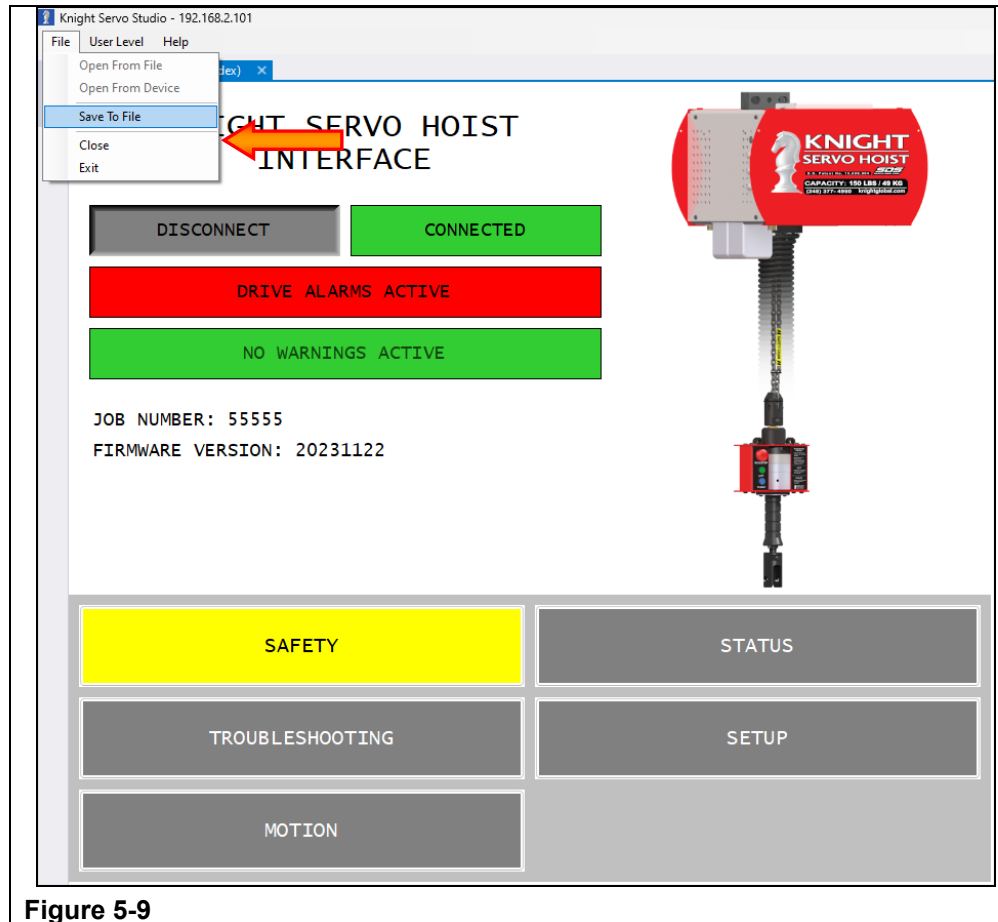

Figure 5-9
Step 1. Move the mouse to the left side of the screen and select the 'File' dropdown. Mouse down to 'Save to File' and select this function (See Figure 5-9)